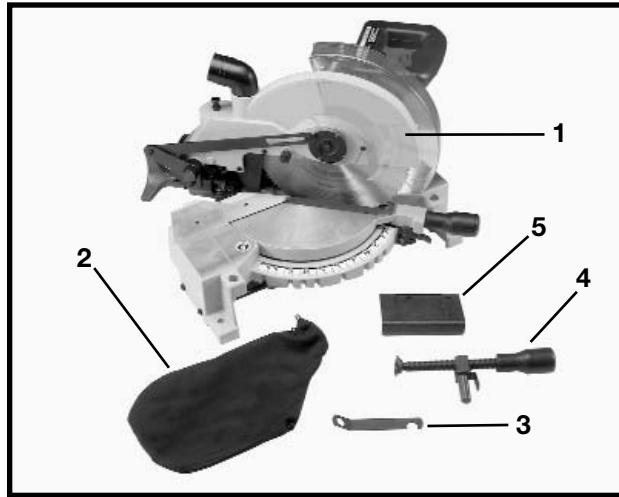
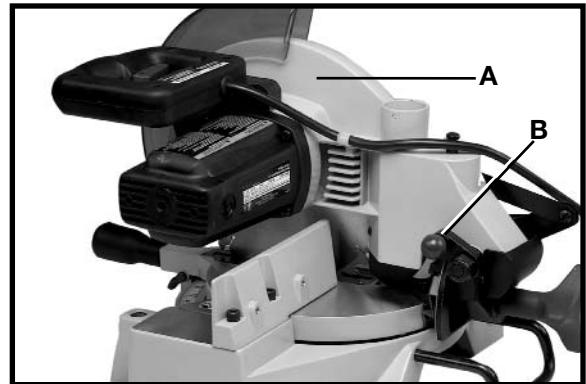
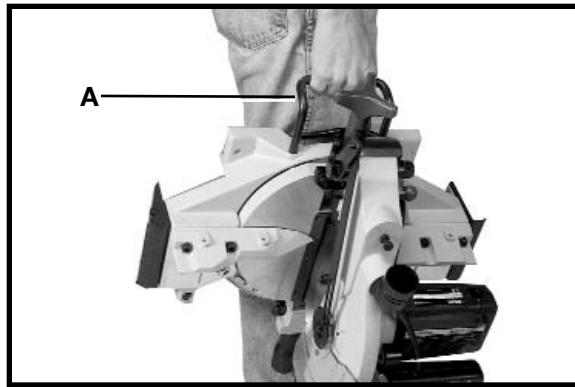

Fig. 2
Fig. 15
Fig. 18
Remove the miter saw and all loose items from the carton. **IMPORTANT: CARRYING THE MACHINE BY THE SWITCH HANDLE WILL CAUSE MISALIGNMENT. ALWAYS LIFT THE MACHINE BY THE BASE OR BY THE CARRYING HANDLE (See Fig. 18).** Fig. 2 illustrates the machine and all loose items after they have been removed from the carton.
When transporting the saw, the cuttinghead should always be locked in the down position. Lower the cutting arm (A) Fig. 15, and push in plunger (B) until other end of plunger (B) engages with hole in cutting arm. **IMPORTANT: CARRYING THE MACHINE BY THE SWITCH HANDLE WILL CAUSE MIS-ALIGNMENT. ALWAYS LIFT THE MACHINE BY THE BASE OR BY THE CARRYING HANDLE (See Fig. 18).**
The support bar (A) Fig. 18 can also be used to carry the machine.